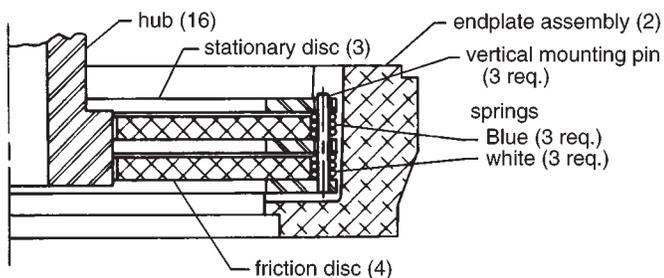

Figure 7
- a) Spring and pin arrangements for vertical above motor are shown in Figure 7.